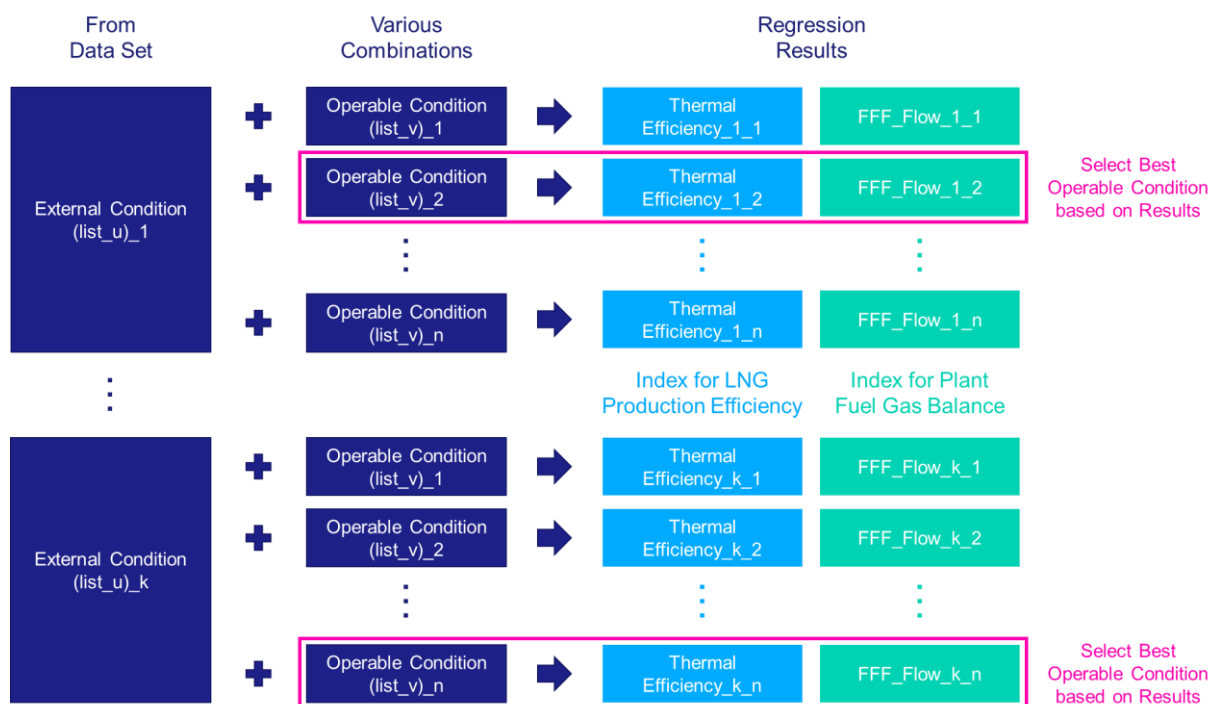

Fig. 2-2: Image of Optimum (Best) Parameter Search
- ◆ Optimum operable parameters (list_v) are searched based on the external condition parameters (list_u) in the dataset (conditions.csv). The thermal efficiency (ThermalEff) and fuel from feed flow (FFF_Flow) of each combination of various operable parameters is calculated via regression models, and select the best combination of operable parameters based on the regression results (Fig. 2-2). The criteria for the selection is described in section 2.2.2.